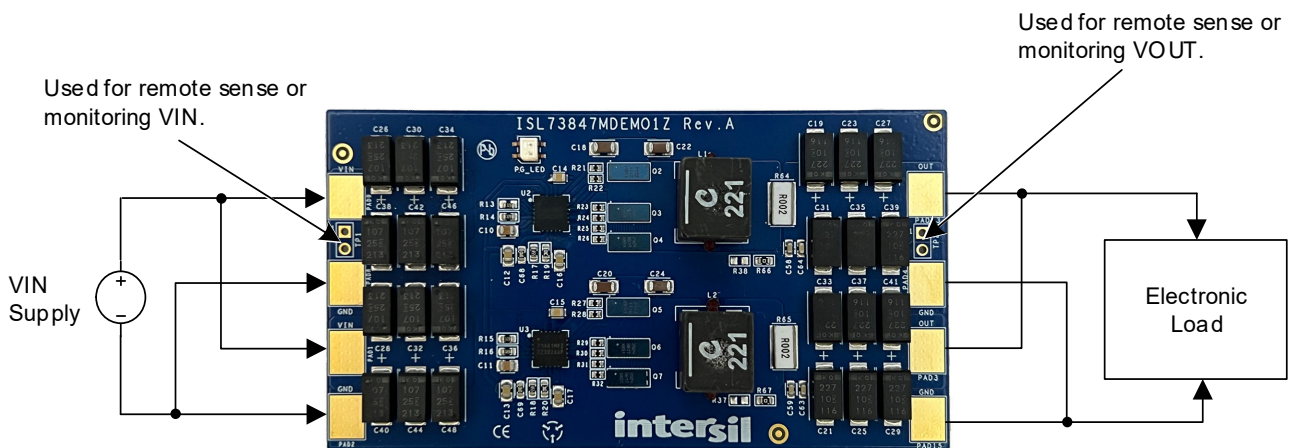

Figure 2. ISL73847MDEMO1Z Board Setup
1. Apply a 4.5V to 15V voltage to  $V_{IN}$  connectors, as shown in Figure 2. To use 4w sense lines from a power supply or a voltmeter to monitor the input voltage, solder a jumper to TP1.
2. If required, a resistor or electronic load can be connected to the  $V_{OUT}$  connectors, as shown in Figure 2. To use 4w sense lines from an electronic load, solder a jumper to TP2.